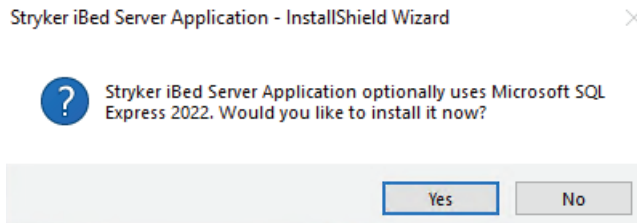

Figure 26 – SQL confirmation
5. Select **Yes** in the confirmation pop-up to start the Microsoft SQL Server installation (Figure 26).